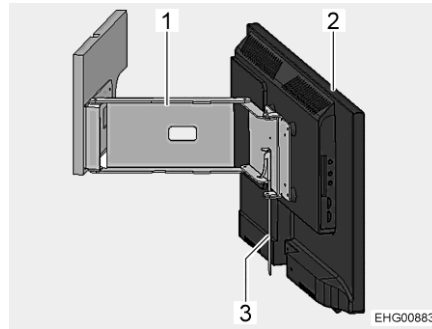

Fig. 82 Flat screen on jointed arm
- Flip the lever (Fig. 82,3). The jointed arm (Fig. 82,1) is unlocked.
- Swivel the flat screen (Fig. 82,2) into the desired position.